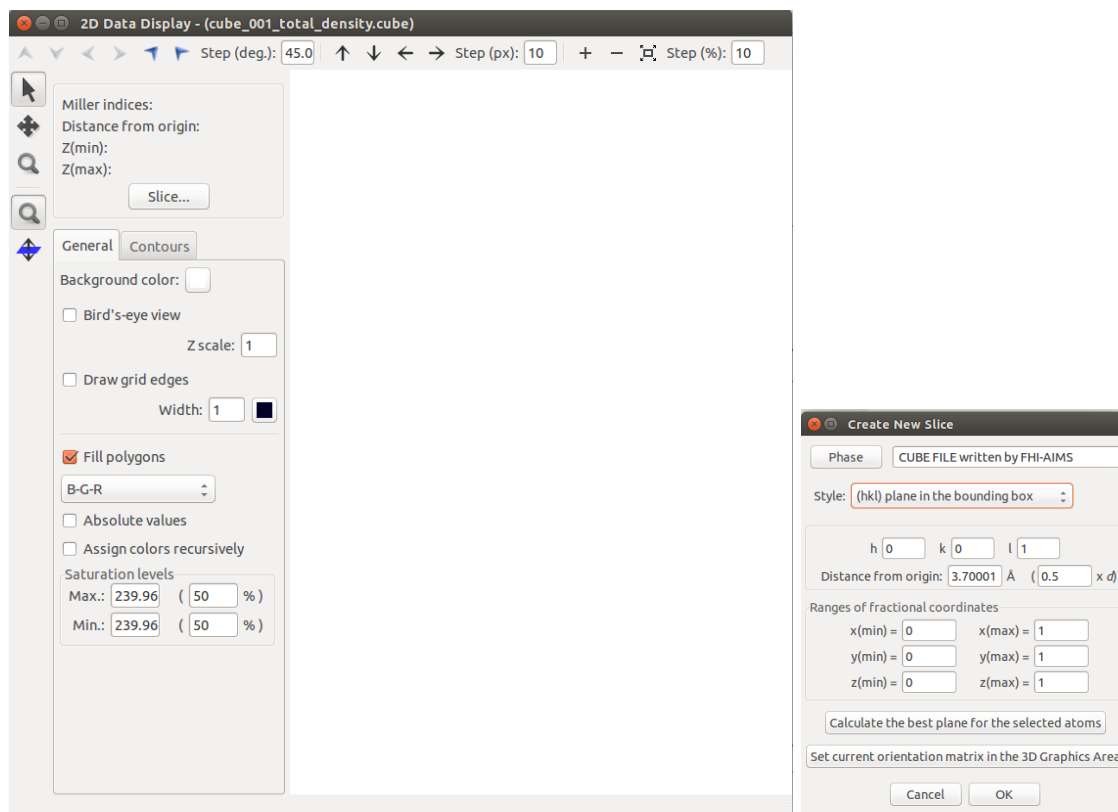

Figure 14
VESTA also has a 2D display mode. Sometimes, making a 2D contour plot on a slice through a certain plane looks better than an isosurface in 3D. To start the 2D mode, click on **Utilities** → **2D Data Display**. You should see the menu shown in Fig. 14.
First, you must select which plane you want to make your 2D slice through. Click on ‘Slice’ to get the second menu shown in Fig. 14. Set a plane based on its (hkl) index. Don’t worry about setting the distance from the origin - you will be able to visualize data in *all* planes parallel to the one set by (hkl) . The default setting is $(hkl) = (001)$. If your molecule is planar and oriented in the xy -plane, this is a good choice. Click ‘Ok.’